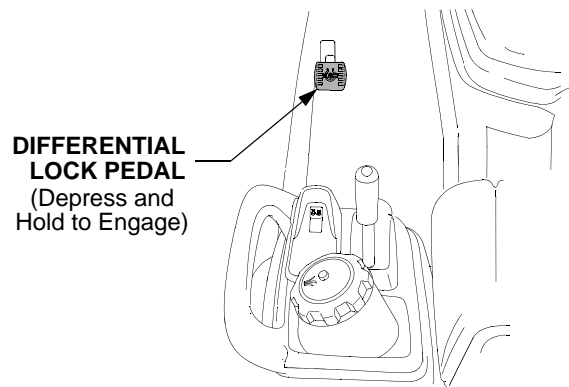

Figure 16
- Fully depress and hold the differential lock pedal to engage the transmission differential lock. Release the pedal to disengage the differential lock. See Figure 16.